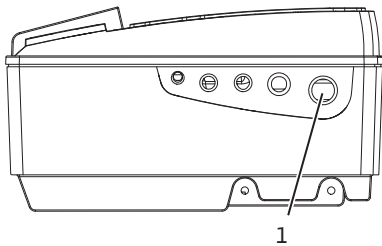

Fig. 18: Threaded cable connection M25
- The electrical connection must be established via a fixed power cable (cross-section to be maintained min. 4 x 2.5 mm², max 4 x 6 mm²) which is supplied with a plug device or an all-pole switch with a contact opening of at least 3 mm. The power cable is to be fed through the threaded cable connection (Fig. 18 Item 1) M 25.